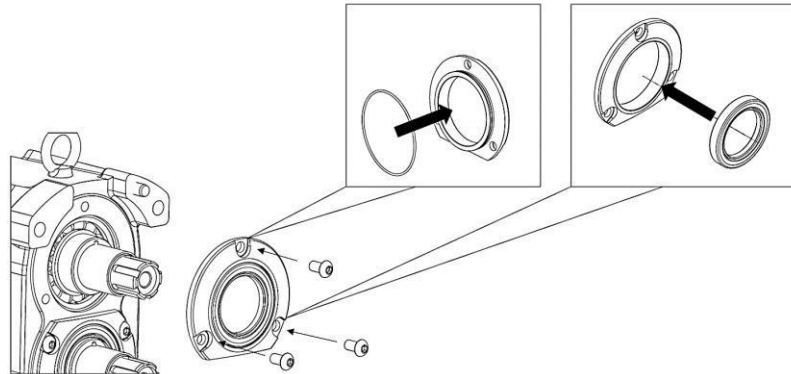

**Figure 51: Pressing Rear Bearing onto Shaft**
3) Set the gear case on a press with the fluid end side facing up. Apply lubricant to the outside of the bearings. Place shaft assembly (one shaft at a time) in the gear case with the rotor end facing up. Making sure that the drive and the short shafts are in the correct bores, press the shafts by the bearings outer race into the gear case until bearings are fully seated (Figure 51).